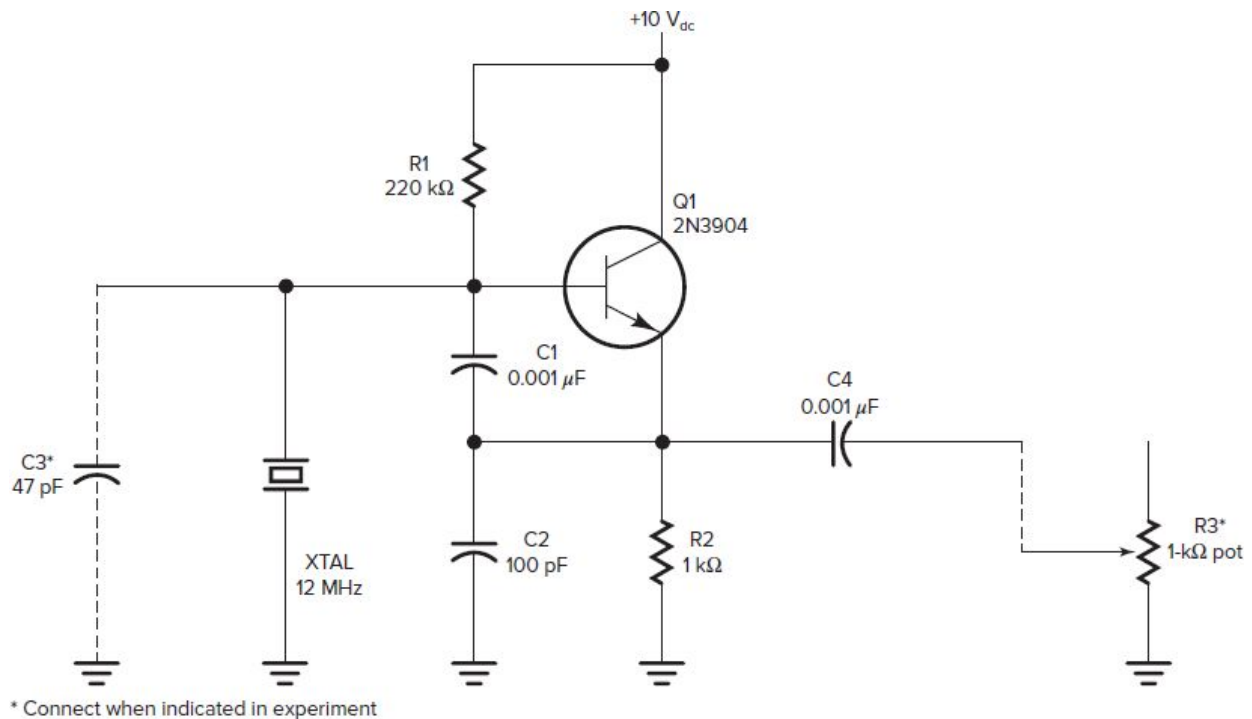

Fig. 8-2 Colpitts-type crystal oscillator.
In this experiment, you will build and test a common crystal oscillator. The circuit is shown in Fig. 8-2. This is a Colpitts-type oscillator, as the positive feedback is derived from a voltage divider made up of capacitors C_1 and C_2 . R_1 biases the transistor into the linear region for maximum gain and least distortion. The frequency of the circuit is set by the crystal that uses its parallel resonant mode. The output, taken from the emitter, is a low-power sine wave.
While the frequency of the output is set by the crystal, any page 62 capacitance appearing in series or parallel with the crystal will also affect the frequency. However, a variable capacitor like that shown in Fig. 8-2 is often connected in parallel with the crystal to permit some variation in the output frequency.
1. Construct the circuit shown in Fig. 8-2. If you are using a breadboarding socket, be sure to keep the component leads as
4. Connect the 47-pF capacitor across the crystal as shown in Fig. 8-2. How did the frequency change? Explain.
7. Connect the 1-k Ω pot load across the output as shown in Fig. 8-2. Set the pot for maximum resistance of 1 k Ω . Measure the output voltage. How did the voltage change? Explain.
4. The circuit in Fig. 8-2 operates with a